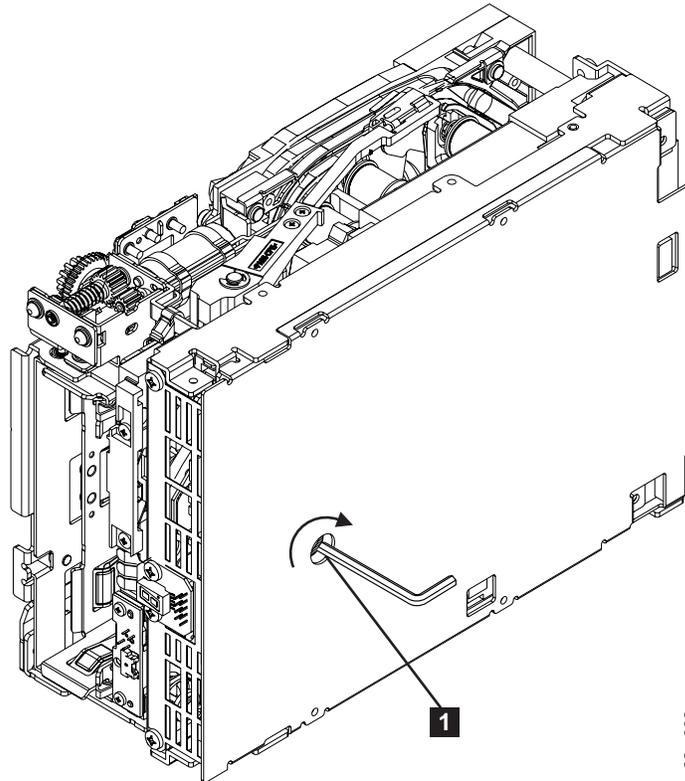

Figure 8-75. Using hex wrench to rewind tape into cartridge
**Note:** Be sure to keep tension on the tape as the LBA is drawn into the cartridge by using a hex wrench (1) in Figure 8-75.